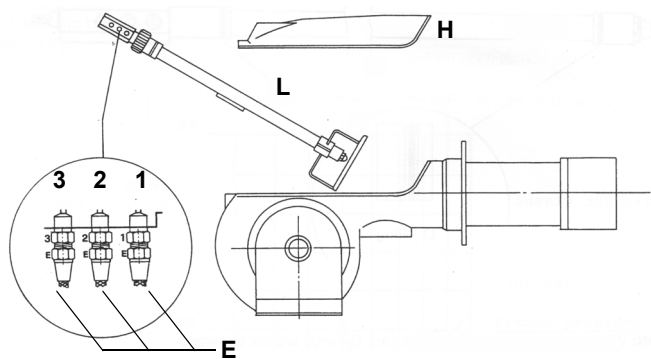
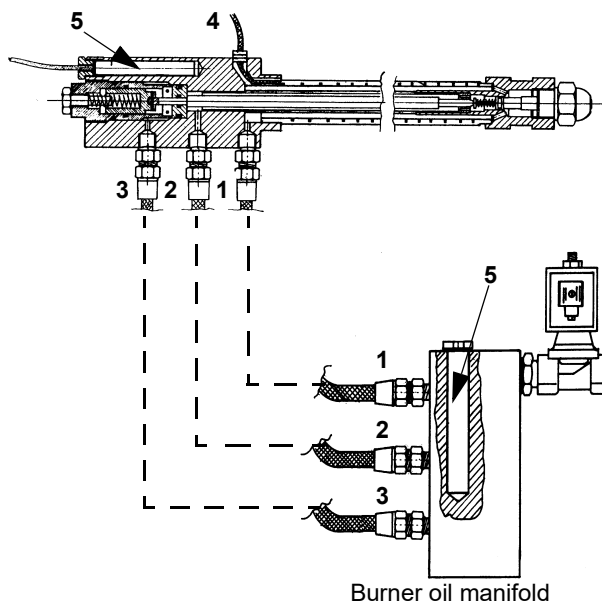

Fig. 22
Fig. 23
- Unscrew the oil connections E (Fig. 22) connecting the flexible pipes to the gun L and remove the whole assembly as shown on Fig. 23.